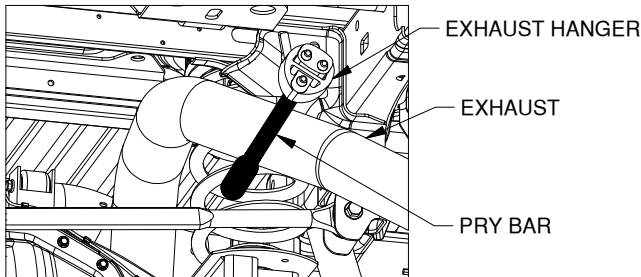

Figure A5: looking under truck bed towards cab.
7. **Disconnect the exhaust hanger: (optional, see secure hitch section step 3)** Locate the exhaust hanger in the rear passenger portion of the truck, see Figure A5. Disconnect the exhaust from the hanger to provide improved mounting access to the center section. It is recommended that a pry bar be used to aid in disconnecting the exhaust hanger, as shown in Figure A5.